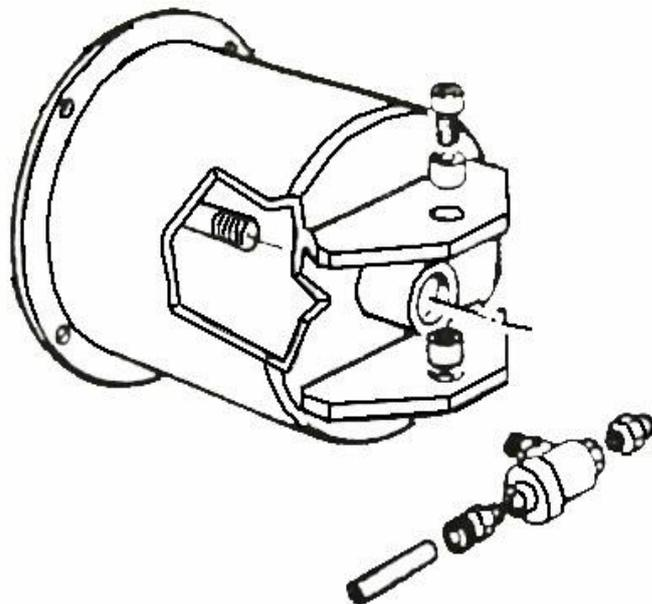

Fig 19
- g. For cleaning or replacing the silencer of bead breaker (B), see fig.19 and proceed as shown on previous point 1 and 3.